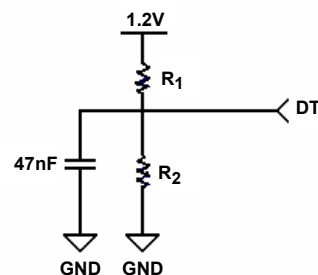
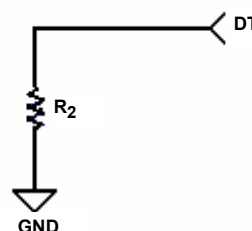

FIGURE 33A.
FIGURE 33B.
The QLX4600-S30 is capable of maintaining periods of line silence on any of its four channels by monitoring each channel for Loss Of Signal (LOS) conditions and subsequently muting the outputs of a respective channel when such a condition is detected. A reference current applied to the Detection Threshold (DT) pin is used to set the LOS threshold of the internal signal detection circuitry. Current control on the DT pin is done via one or two external resistors. Nominally, both a pull-up and pull-down resistor are tied to the DT pin (Figure 33A), but if adequate control of the supply voltage is maintained to within $\pm 3\%$ of 1.2V, then a simple pull-down resistor is adequate (as in Figure 33B). Resistors used should be at least 1/16W, with $\pm 1\%$ precision.
The internal bias point of the DT pin, nominally 1.05V, is used in conjunction with the voltage divider (R_1 and R_2) shown in Figure 33A to set the reference current on the DT pin.
For channels exhibiting more than 25dB of total loss (this includes cable or FR-4 loss) the DT pin should be configured for a reference sink current (coming out of the DT pin) of approximately 2 μ A. A typical configuration for a 2 μ A sink current is given in Figure 33C. If the configuration in Figure 33B is utilized, a 525k Ω resistor would be used.